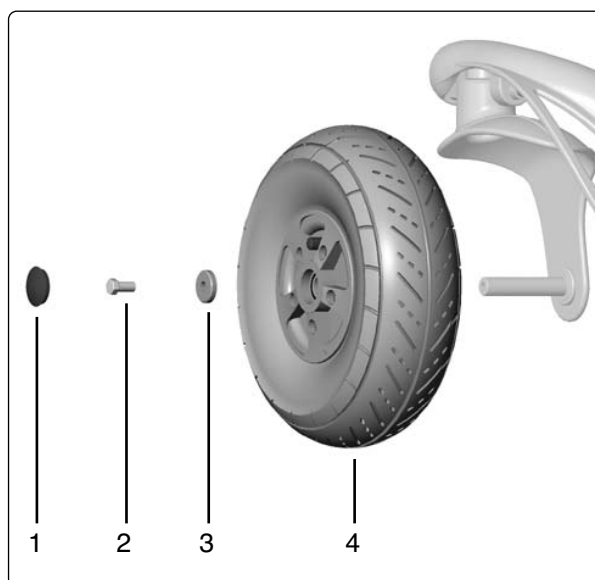

Fig. 15. Fitting of rim.
3. Remove the hubcap (1), bolt (2) and washer (3); see figure 15.
3. Mount the washer (3) onto the bolt (2) and secure the wheel. **Use a torque wrench to tighten the bolt to 17.7 ft-lbs (24Nm).** Install the hub cap (1). See Fig. 15.